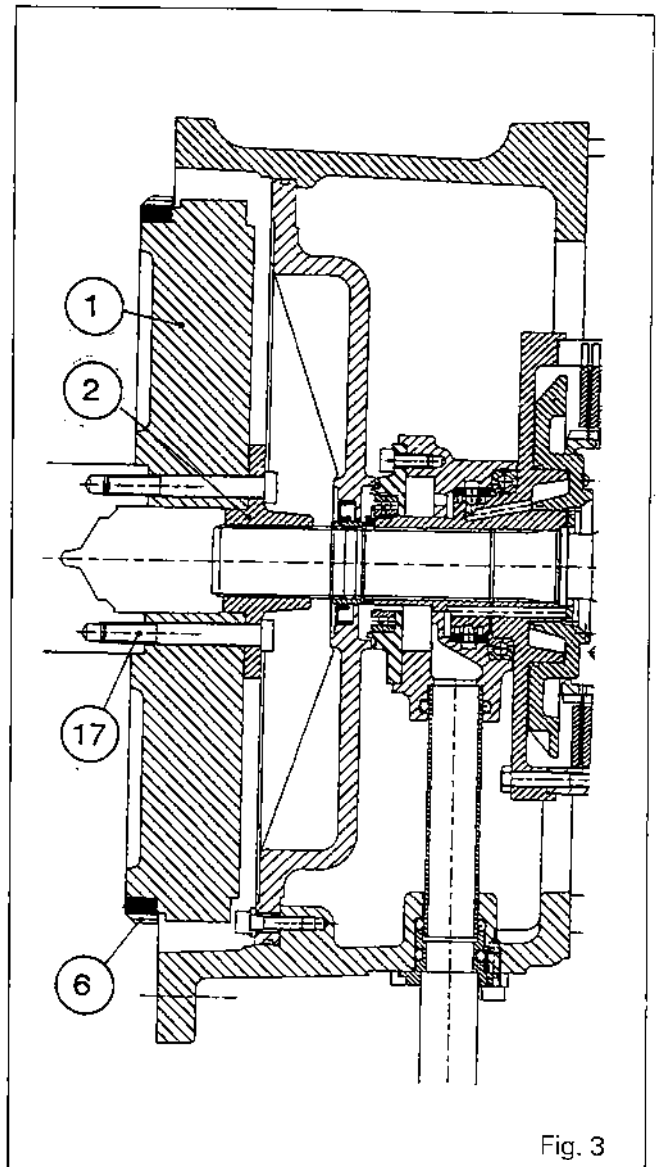

Fig. 3
A. Removing and refitting the engine flywheel (Fig. 3)